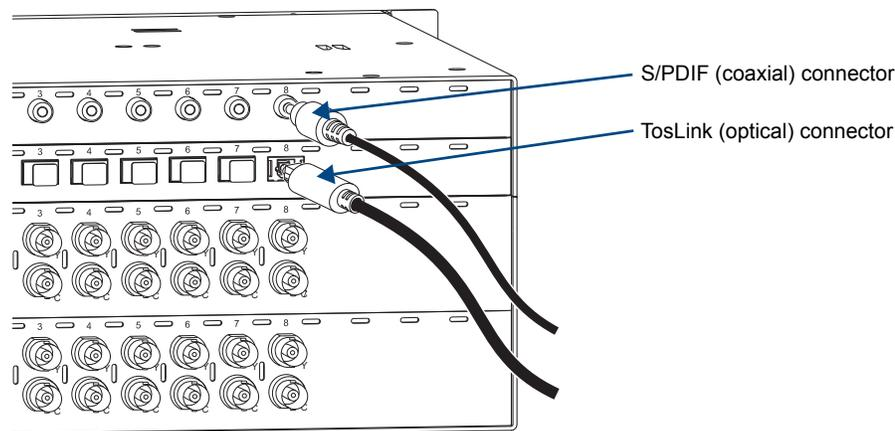

FIG. 50 Attaching S/PDIF and TosLink digital audio connectors
1. Insert S/PDIF digital audio (coaxial) plugs into the S/PDIF digital audio jacks (FIG. 50).
2. Insert TosLink digital audio (optical) plugs into the TosLink digital audio jacks (FIG. 50).